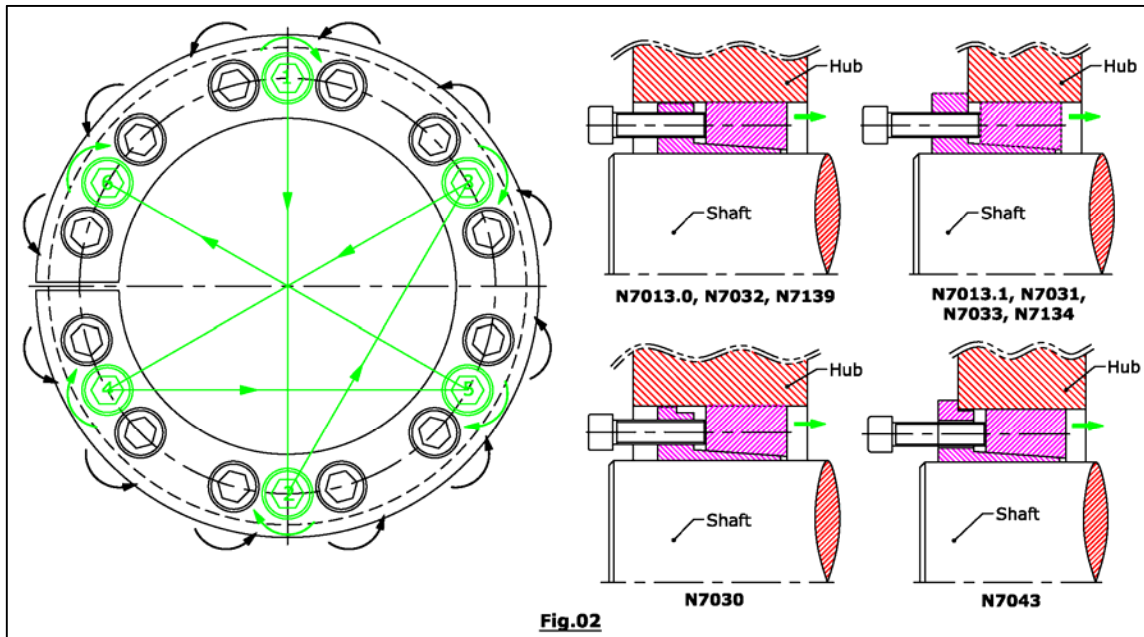

Fig.02
- After loosening Screws, Remove some Screws which are clamped on locking assembly or nearest to removal holes and those screws insert into removal tapped holes (as shown in Fig.02).